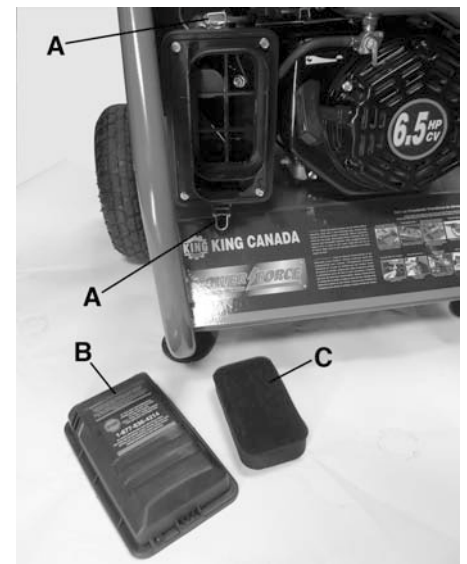

Figure 6
- 1) Snap the top and bottom clips (A) Fig.6 backwards and remove the air cleaner cover (B).
- 2) Remove the air cleaner filter (C) Fig.6, wash filter in kerosene, squeeze kerosene out, soak filter in engine oil and squeeze engine oil out.